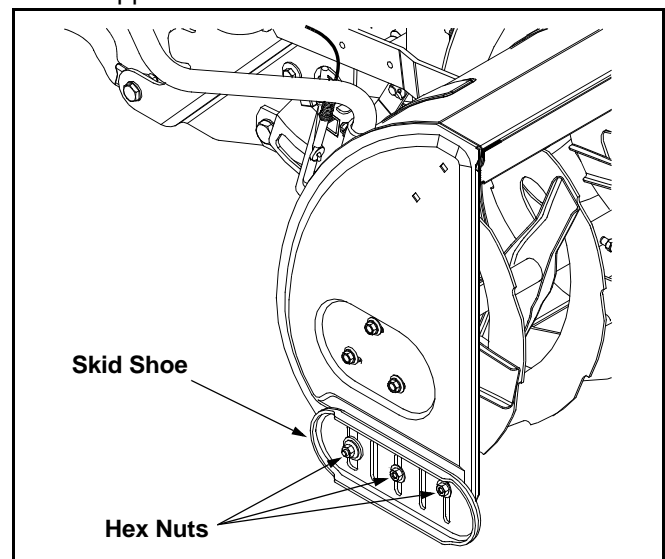

Figure 23
- Loosen, but do NOT remove, the three hex nuts which fasten the skid shoe to the auger housing. See Figure 23.